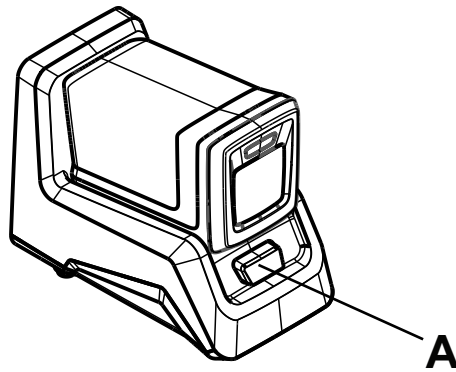

Figure 42 – Charging the battery
2. Press the battery release button (A) and slide the charged battery out of the charger (Figure 42).